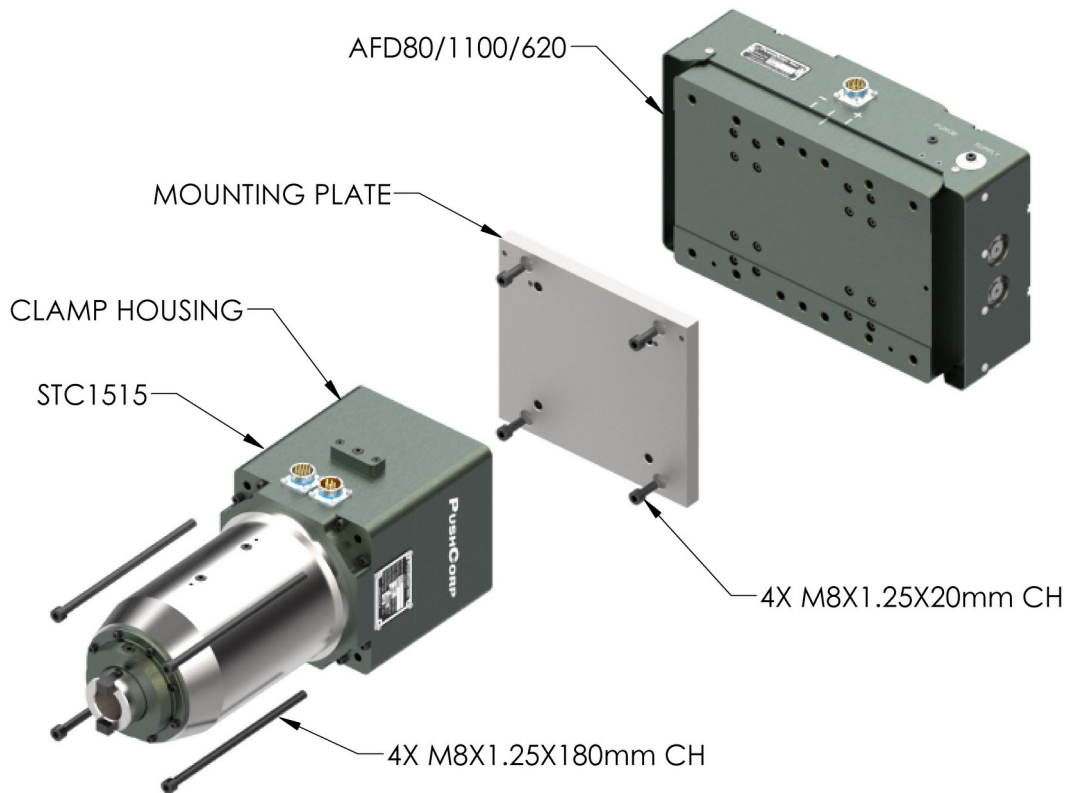

Figure 2: STC1515 Perpendicular-Axis Configuration
To attach the STC1515 to an AFD in a Perpendicular-Axis configuration, position the Clamping Housing over the Carriage as shown in Figure 2. Then secure the unit using four (4), M8x1.25x180mm, Socket Head Cap Screws. Tighten the fasteners to the torque specified in Section 4.0.